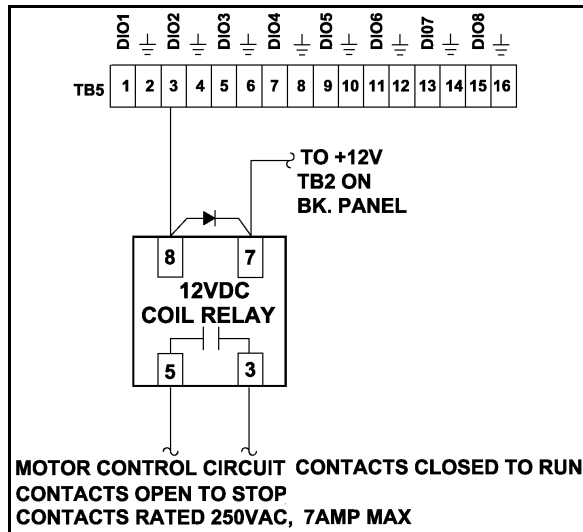

Figure 7-5. Electro-Mechanical Motor Control Relay Wiring to Lufkin
- b. *For electro-mechanical relay option* (Figure 7-5):